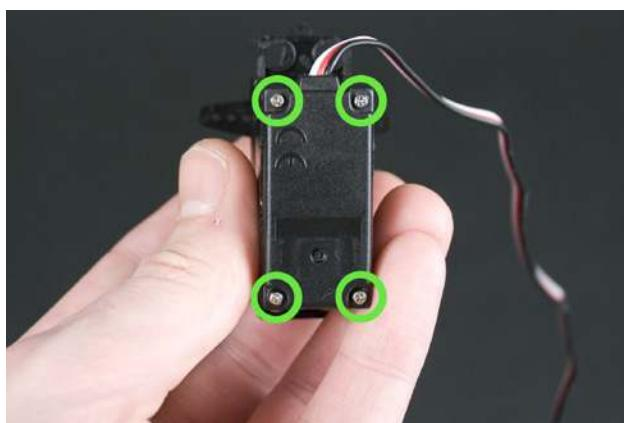

Figure 8-7. Screws to be removed
- 2 Remove the four screws from the bottom of the servo, as shown in Figures 8-7 and 8-8, and set them aside.